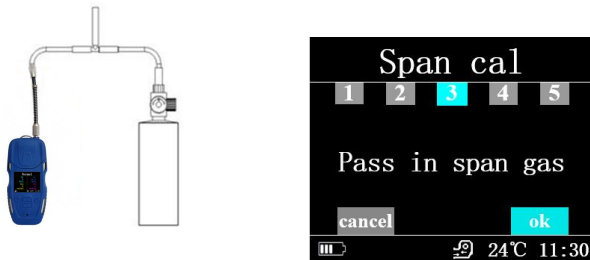

Figure 35
- iii. Feed the detector with span gas, and press ok to next step, as show Figure 35.